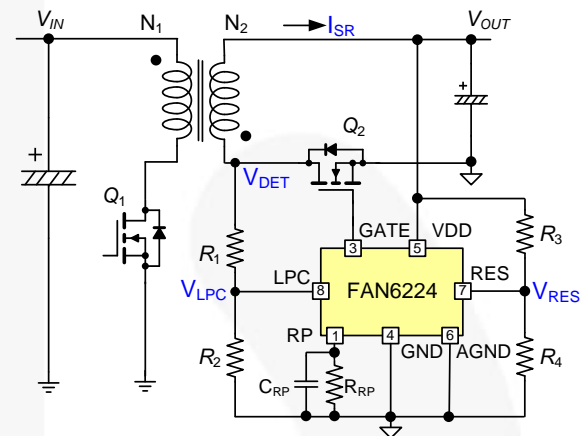
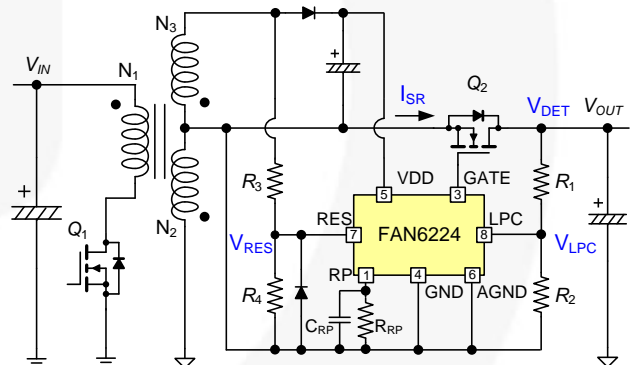
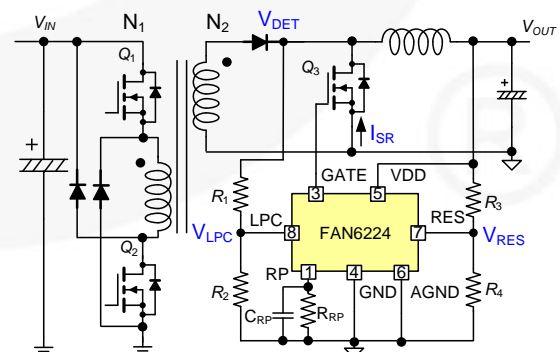
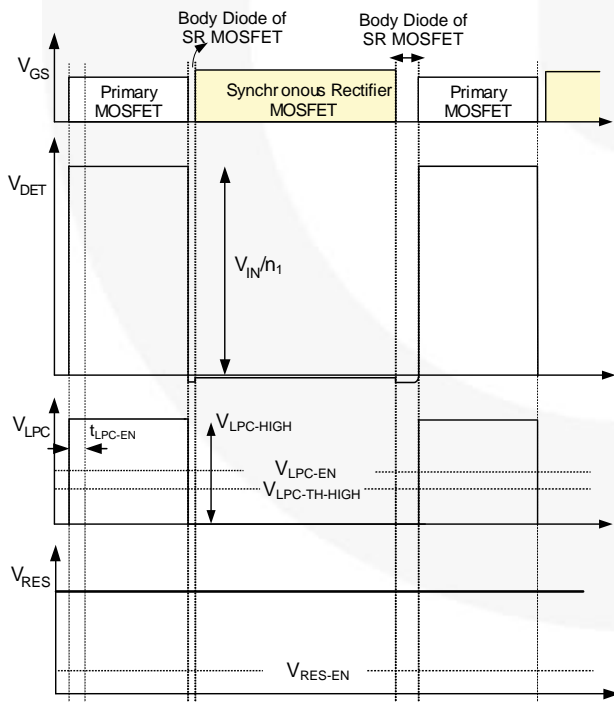

Figure 1. Typical Application Circuit for Low-Side Flyback Converter
Figure 2. Typical Application Circuit for High-Side Flyback Converter
Figure 3. Typical Application Circuit for Dual-Switch Forward Free-Wheeling Rectification
Figure 6. Typical Waveforms of Forward Free-Wheeling Rectification with FAN6224
FAN6224 is a secondary-side Synchronous Rectification (SR) controller to drive MOSFETs for improved efficiency. It is suitable for Continuous Conduction Mode (CCM), Discontinuous Conduction Mode (DCM), and Quasi-Resonant (QR) flyback converters. It can be applied on both low-side and high-side rectification, as shown in Figure 1 and Figure 2. It can also be applied on forward or dual-forward free-wheeling rectification, as shown in Figure 3.
The SR MOSFET turn-off timing is determined by linear-predict timing control and the operating principle is based on voltage-second balance theorem. This control algorithm is implemented by detection of secondary-side winding voltage and output voltage, as shown in Figure 1. The method avoids sense-resistor usage, which improves the efficiency. In addition, it is independent from the turn-on resistance of the MOSFET and, therefore, increases the flexibility of MOSFET selection.
For low-side applications, the output (V_{OUT}) can supply power for the FAN6224. As shown in Figure 1, the V_{DD} pin is connected to V_{OUT} directly. The V_{DD} operating range is between 11.5 V and 26 V. If the rated output voltage is out of this range or the FAN6224 is used for high-side application, an auxiliary winding (N_3) is required to supply power for the FAN6224. The auxiliary winding reflects V_{OUT} , so V_{DD} is derived as:
As Figure 1 shows, the resistors of the LPC and RES pins need to be designed appropriately for linear-predict timing control. When designing the four resistors, begin with the LPC part. First, determine the proper LPC operating range by selecting the ratio of LPC resistors ($Ratio_{LPC}$). Then choose the proper resistance of R_1 and R_2 according to $Ratio_{LPC}$. Next, select the voltage scaled-down ratio (K). Then the ratio of the RES resistors ($Ratio_{RES}$) can be obtained. Finally, R_3 and R_4 are determined based on $Ratio_{RES}$ and the design is complete.
Figure 3 shows the typical application circuit of applying FAN6224 on dual-switch forward free-wheeling rectification. The related key waveform is shown in Figure 6. When the primary MOSFETs turn on, the reflected voltage across the SR MOSFET, V_{DET} , is obtained as: